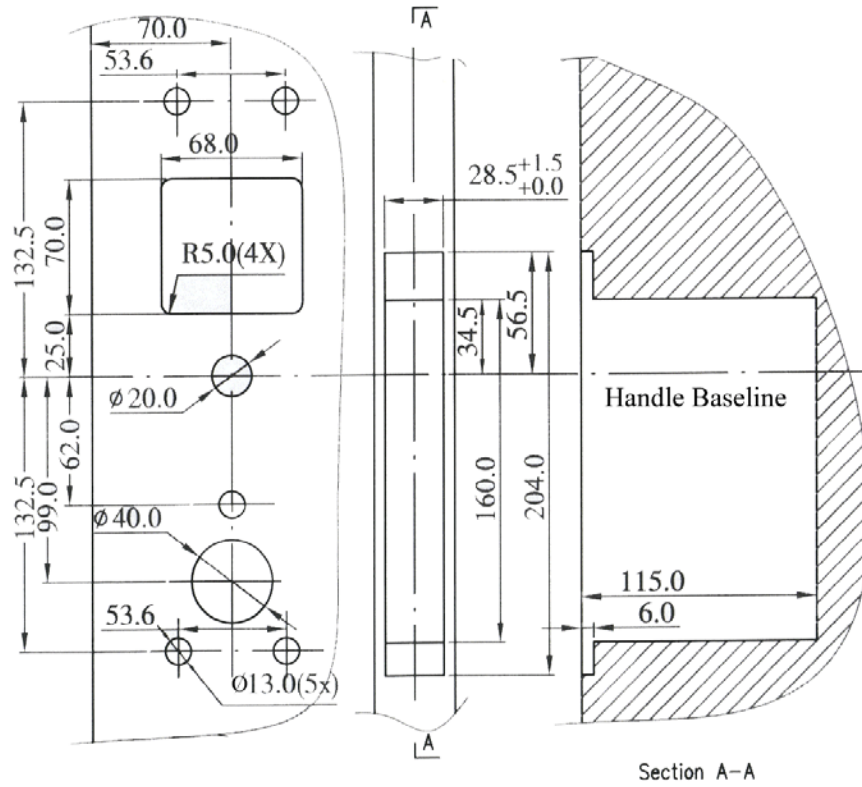

Fig.3 Template Size View
Step 1: Draw the handle baseline on the door face according to the user's requirement, or the suggested height is 1000mm above the finished floor. Correctly aim the two lines, one on the template, and one is just set on the door, then paste the template on the two sides of door face, and draw 7 circles and one rectangle. Paste another template on the side door, and draw 4 lines, as figure 3.